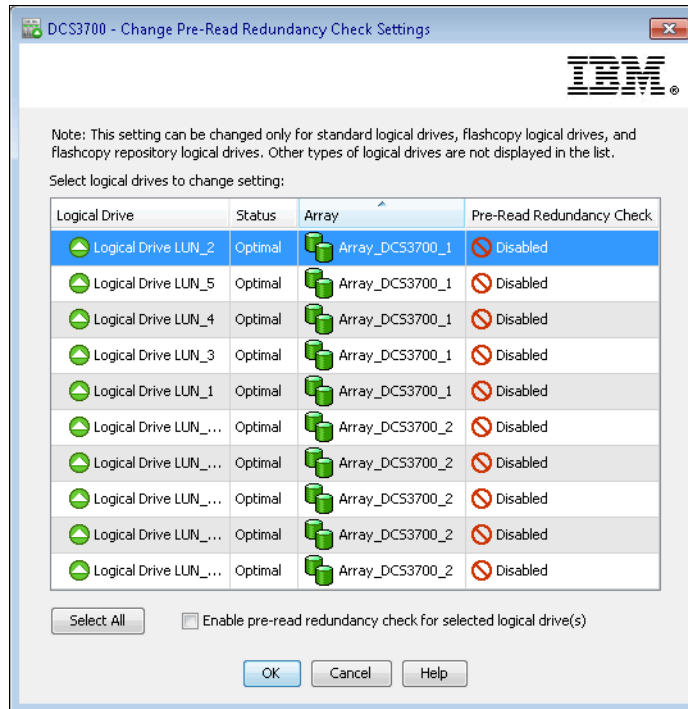

Figure 8-48 Change Pre-Read Redundancy Check settings
1. Highlight the logical drive in the Logical pane tree, right-click it, and select **Change** → **Media Scan Settings**. The window that is shown in Figure 8-48 on page 272 opens.